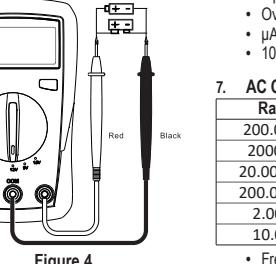

Figure 4
- Small Battery Measurement (CP7400 only, see Figure 4)**